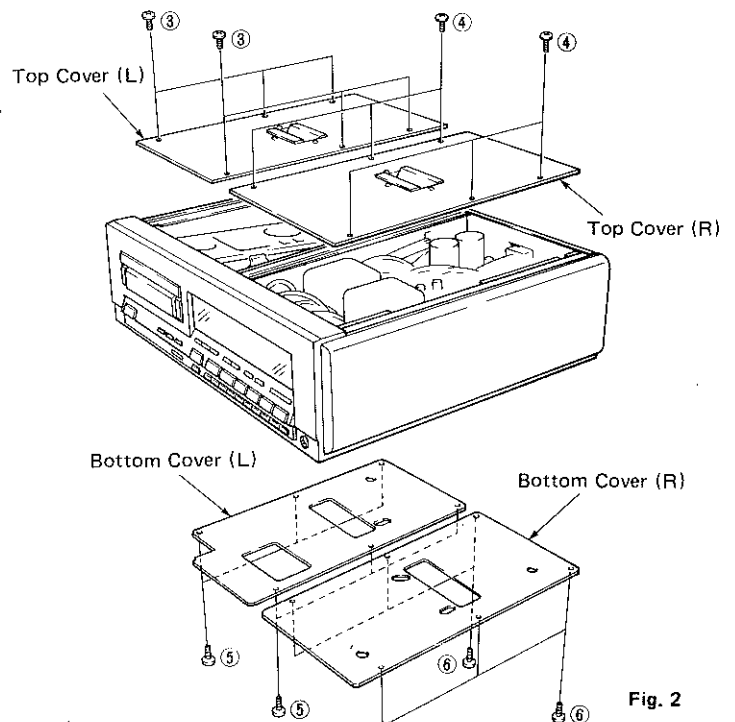

Fig. 2
3. Removal of Top Cover (L), (R) and Bottom Cover (L), (R)
- a. Remove 6 screws (③) in Fig. 2, and then remove the Top Cover (L).
- b. Remove 6 screws (④) in Fig. 2, and then remove the Top Cover (R).
- c. Remove 6 screws (⑤) in Fig. 2, and then remove the Bottom Cover (L).
- d. Remove 6 screws (⑥) in Fig. 2, and then remove the Bottom Cover (R).